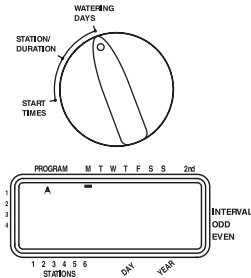

Figure 7: LCD Display with Watering Days
- Turn the rotary dial to Watering Days in program A. The display will show an "A" and the cursor will blink under the days of week M, T, W, T, F, S, S Monday, Tuesday, etc [See Figure 7].